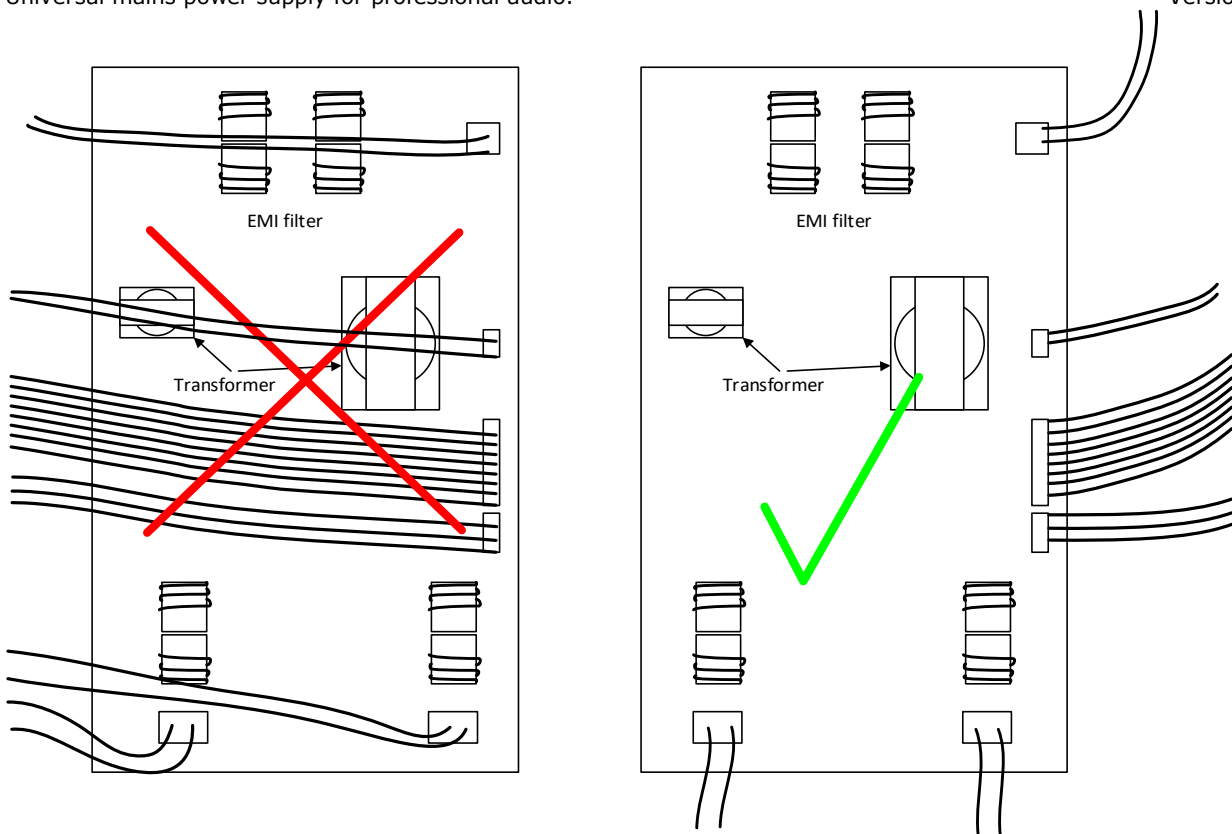

Figure 19 : Do not route cables near the module magnetics.
- Do not route cables near by the magnetic components on the module i.e. inductors and transformers (Figure 19).